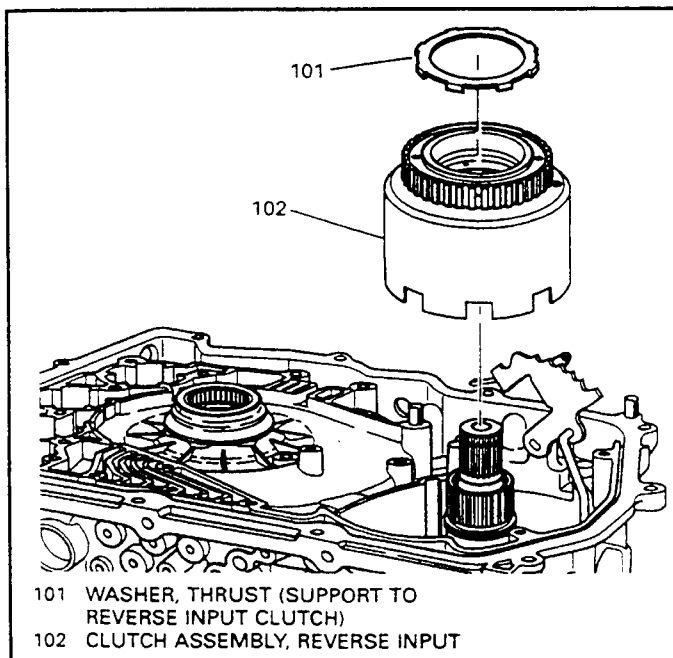

Figure 70
67. Remove the driven sprocket support to reverse input clutch housing thrust washer (101), as shown in Figure 70.
68. Remove the reverse input clutch housing and 2nd roller clutch assembly (See Figure 70).